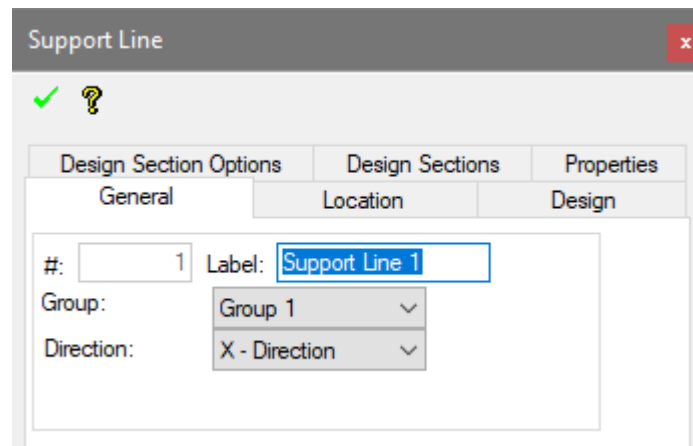

Figure 6.7-1 - Support Line Dynamic Editor
- Support lines in the X-direction will be drawn first. Use the **Create X-Support Line**  tool from **Floor Design | Strip Modeling**. Click on the **Item's Properties**  icon of the **Bottom Quick Access** toolbar. A dialog box, as shown in **Figure 6.7-1**, will be displayed. Make sure the intended direction of the Support Line is set to **X-Direction**. Click the green check mark to accept the modification if not. Click the X to close the window.